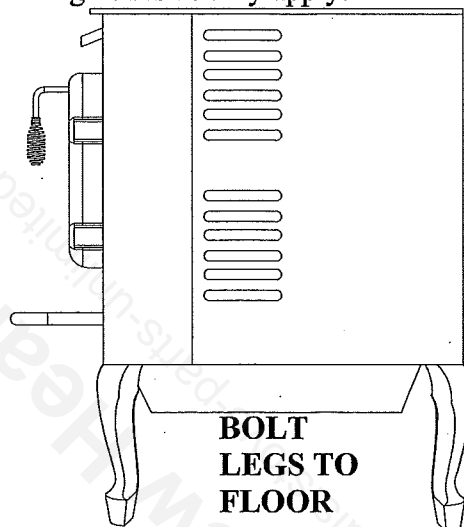
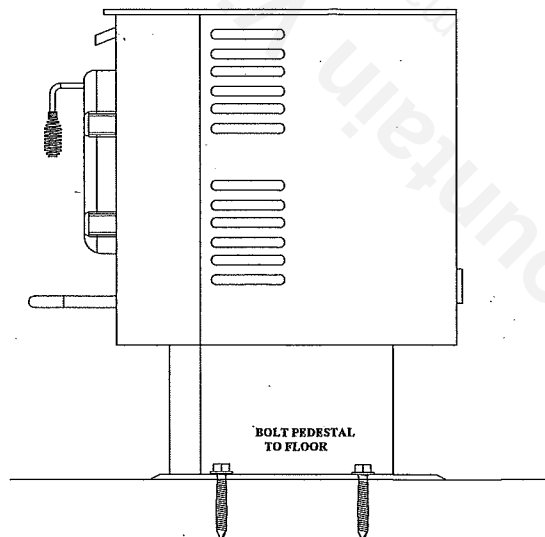

FIGURE 11: MOBILE HOME LEG INSTALLATION
FIGURE 12: MOBILE HOME PEDESTAL INSTALLATION
1. Mobile home code requires pellet stoves to be bolted to the floor regardless of whether it has legs or is mounted on its optional pedestal. See FIGURE 11 or FIGURE 12.